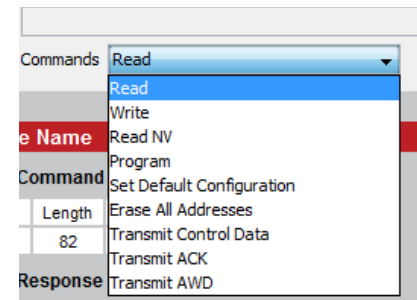

Figure 18: The Master Development System Software Demo Command Set Tab Commands Menu
3. The Commands drop-down menu shows all of the commands that are available for the active module (Figure 18). Selecting one of the commands from this menu automatically fills in the Command box. The values can be adjusted by typing in the box.